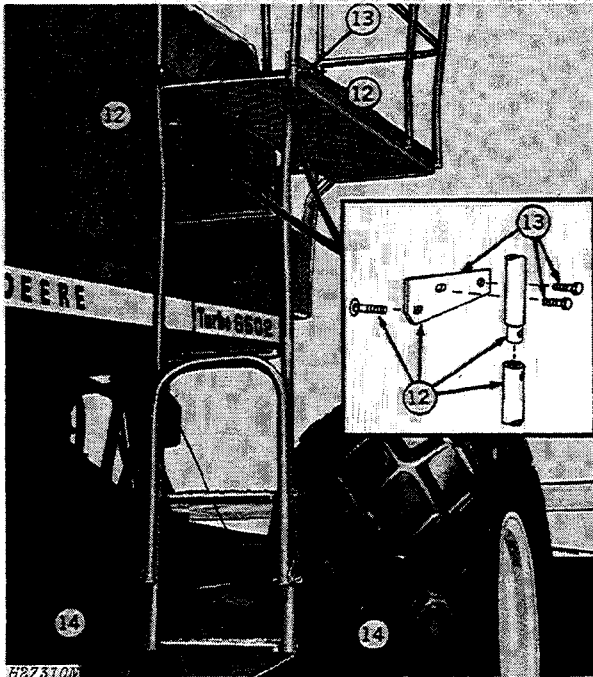

Fig. 6-Installing Ladder
12. Slide ladder rail into handrail and align bolt holes. Hold right-hand bracket behind rails and insert $3/8 \times 1-3/4$ -inch plow bolt through bracket. Secure with hex nut (Fig. 6).
13. Attach bracket to catwalk with two $3/8 \times 3/4$ -inch self-locking cap screws and lock nuts. Repeat steps 12 and 13 on left-hand side (Fig. 6).
14. Attach ladder to support, using two $3/8 \times 1$ -inch cap screws (Fig. 6).